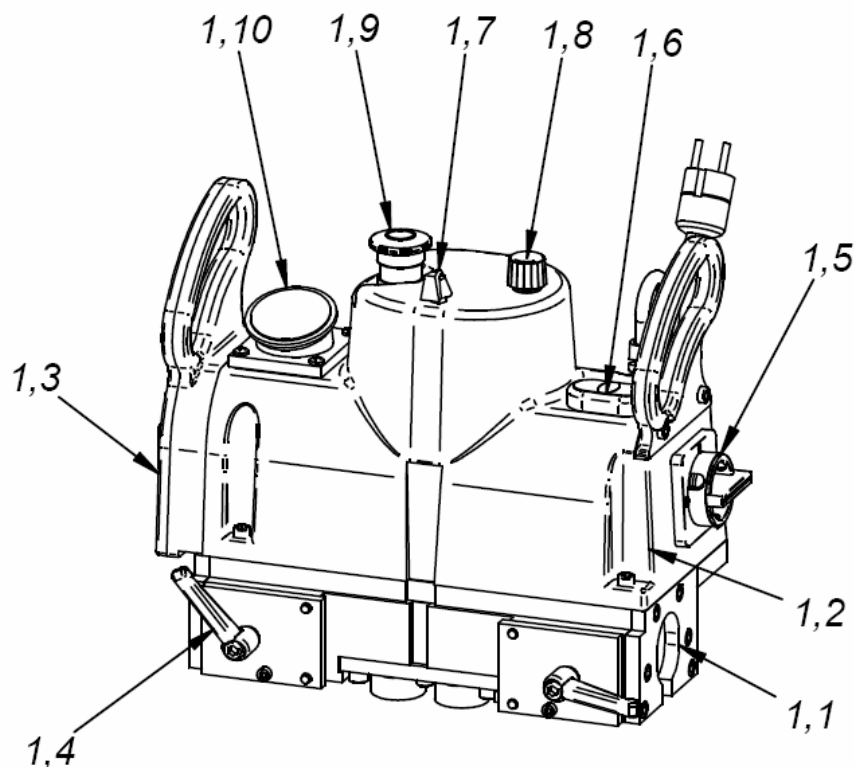

Fig. 3 Milling carriage
- a) Take plug out of socket in carriage (fig.3 item 1.10)